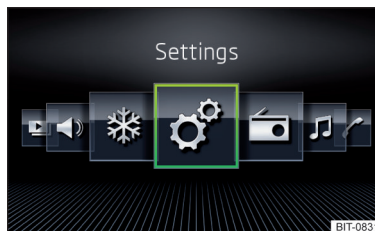

Fig. 187
- ▶ Select the **Grid display** » Fig. 186 or **Horizont. Display** » Fig. 187 option.